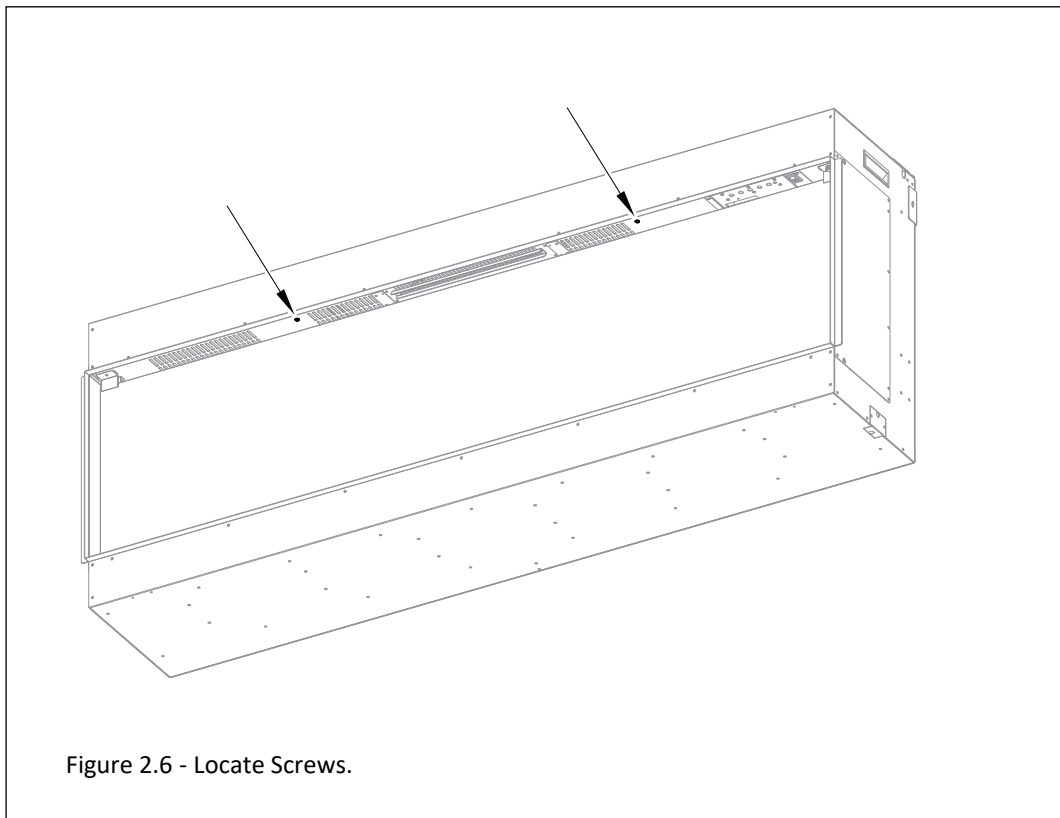

Figure 2.6 - Locate Screws.
1. Locate the (2) phillips screws shown in Figure 2.6. The screws will be located above the viewing glass area. Note: each fireplace might look slightly different than shown. Remove these screws.